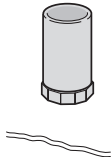

Fig.21a Step 1
**Step 1** – Dress first layer of felt up to pipe (Fig.21a)